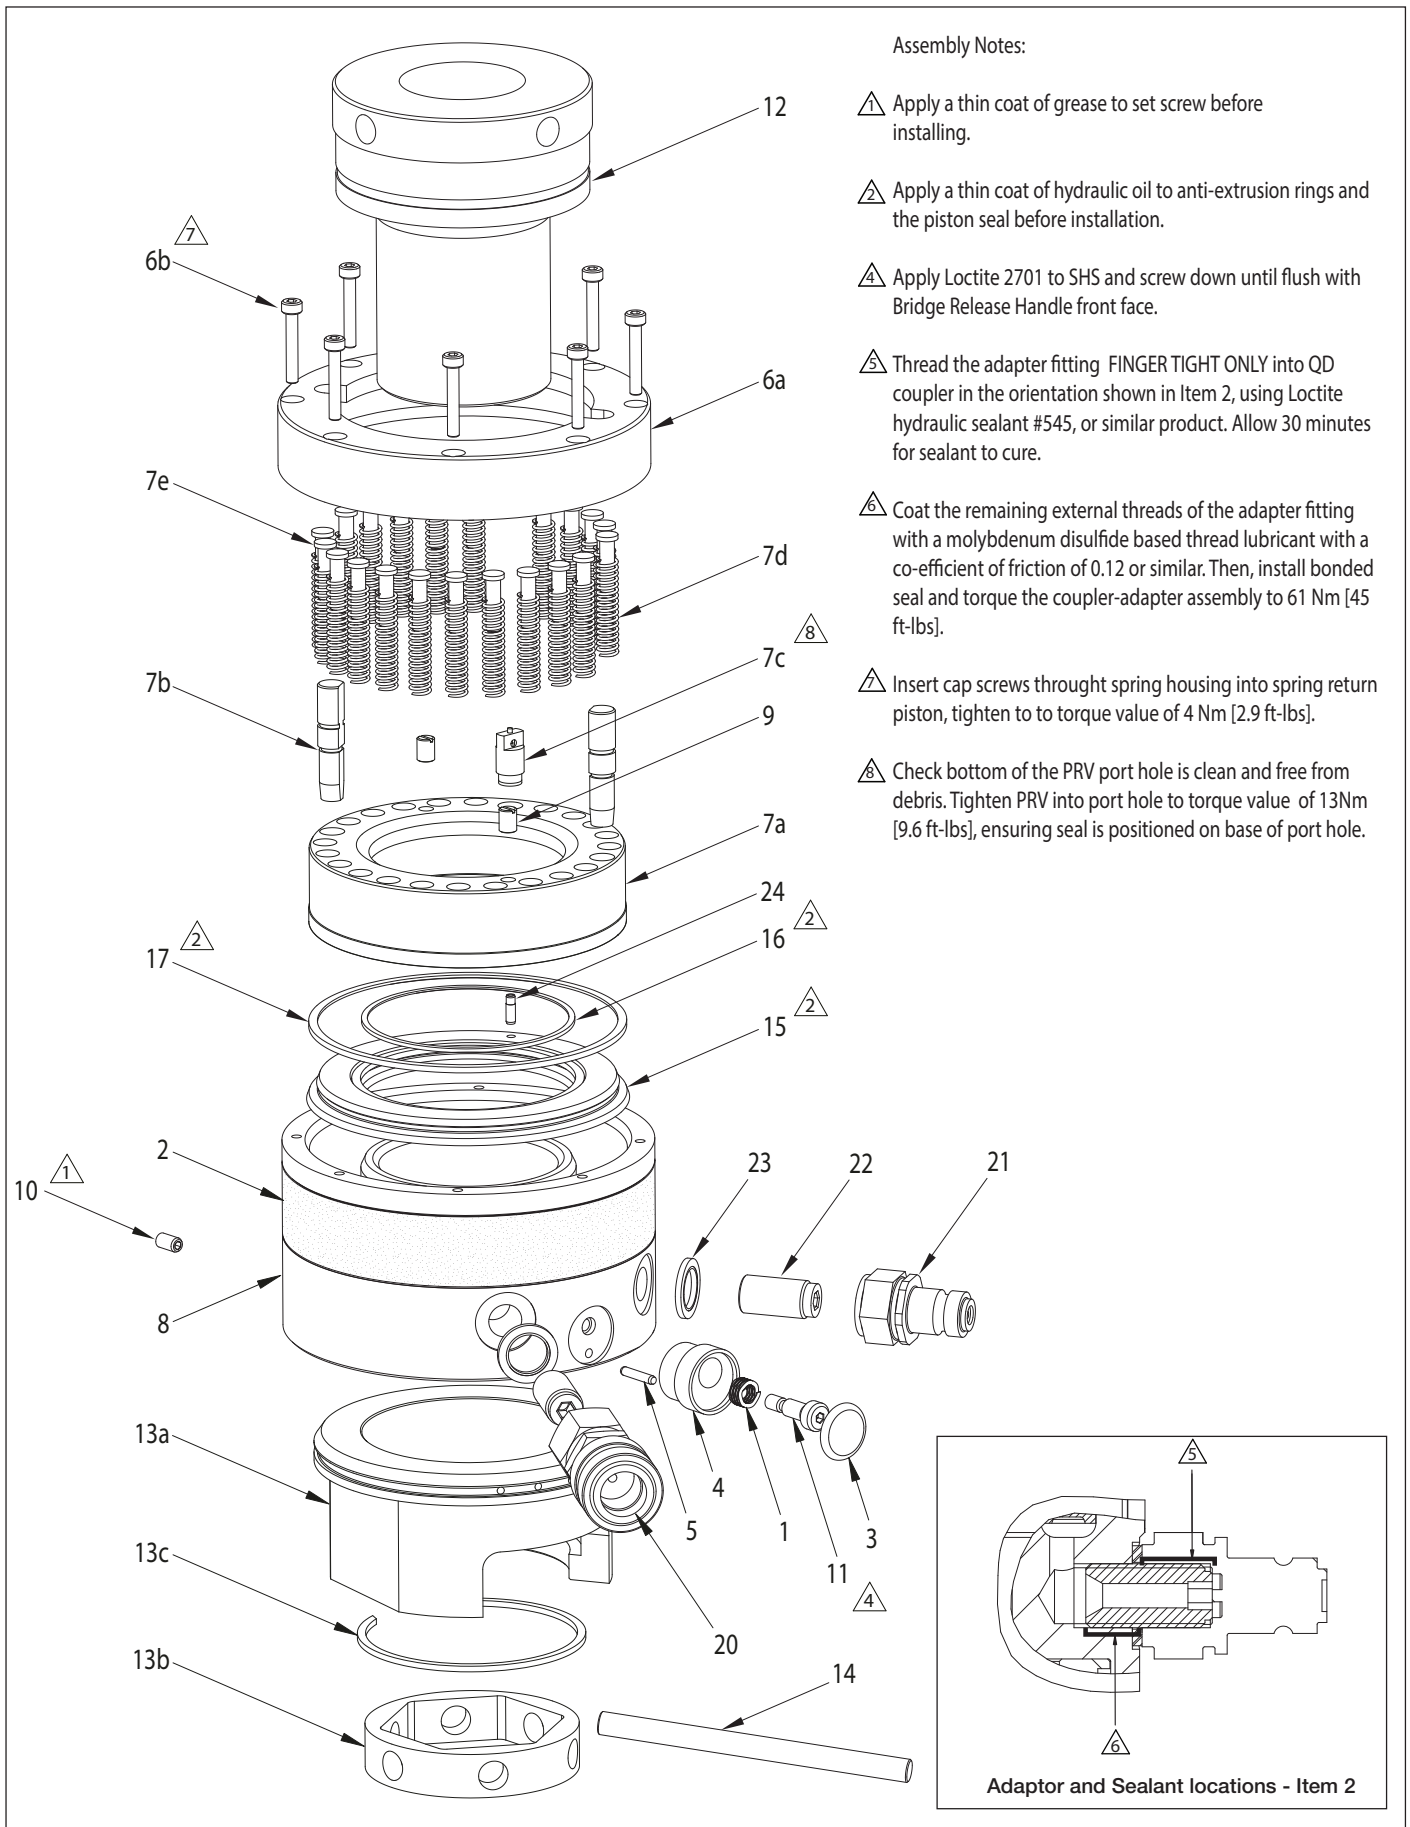

Figure 3, Exploded View, HydraMax® Series Hydraulic Tensioner (Models HM06, HM07)
**Repair Parts List For Figure 3 – HydraMax® Series Hydraulic Tensioner, Models